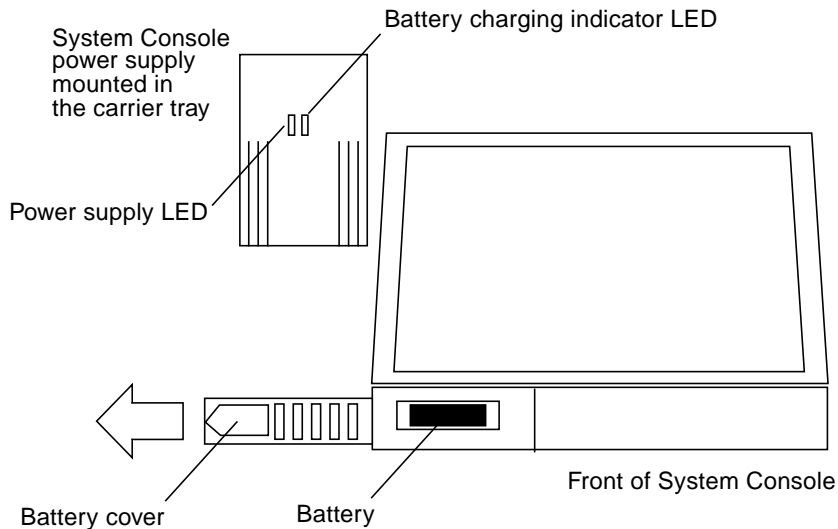
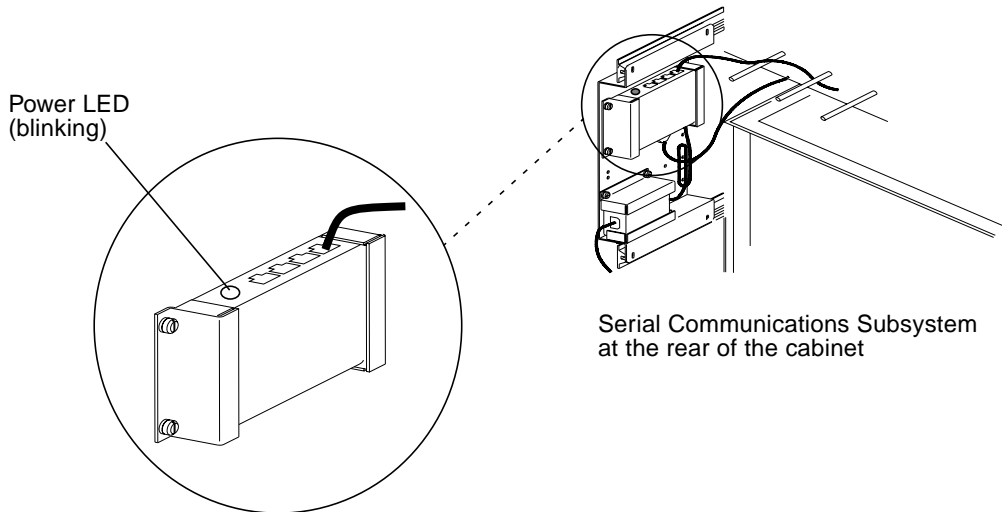

FIGURE 2-6 System Console Battery and Battery Status LED
FIGURE 2-7 Serial Communications Subsystem Power Supply LEDs
1. **Slide the battery cover to the left (see FIGURE 2-6).**
4. **Make sure the cabinet is powered on. Make sure the System Console power supply power LED is on; this power supply is located to the left of the System Console (FIGURE 2-6). If the StorEdge A7000 includes the Serial Communications Subsystem (inside the cabinet rear door), make sure its power LED is blinking.** See FIGURE 2-7.